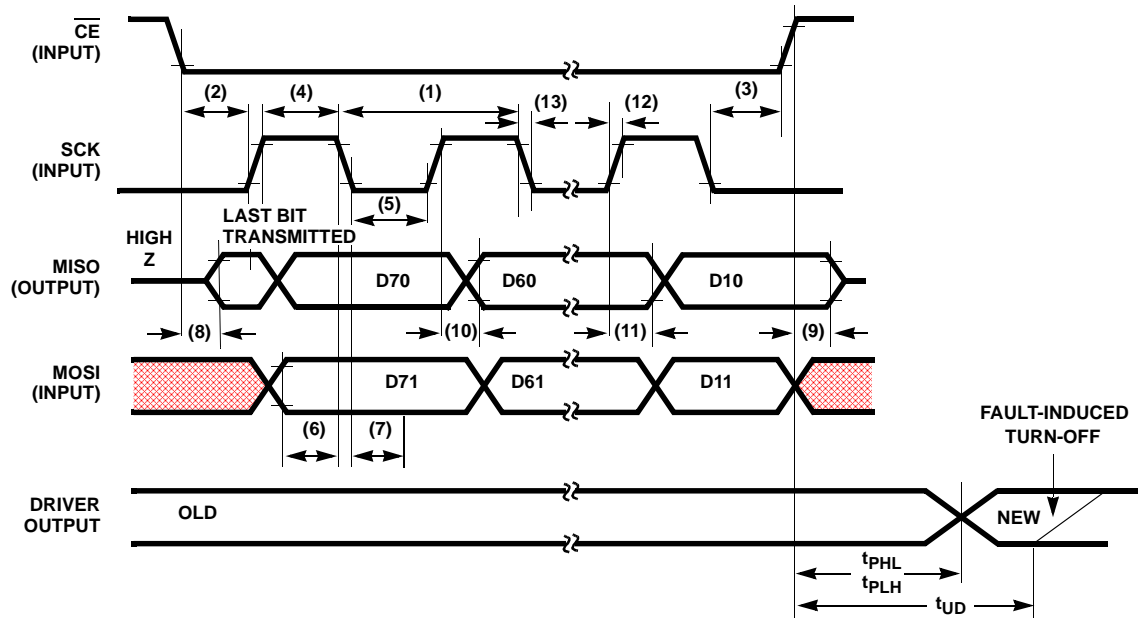

FIGURE 1B. SPI TIMING DIAGRAM
**Serial Peripheral Interface Timing** (See Figure 1B)